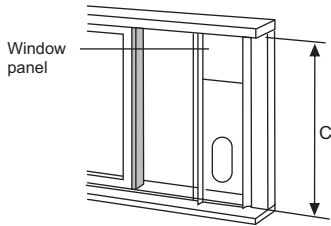

Fig.13
2. Adjust the length of the slider kit according to the height of the window. Place window slider kit against foam seal (Fig.13).